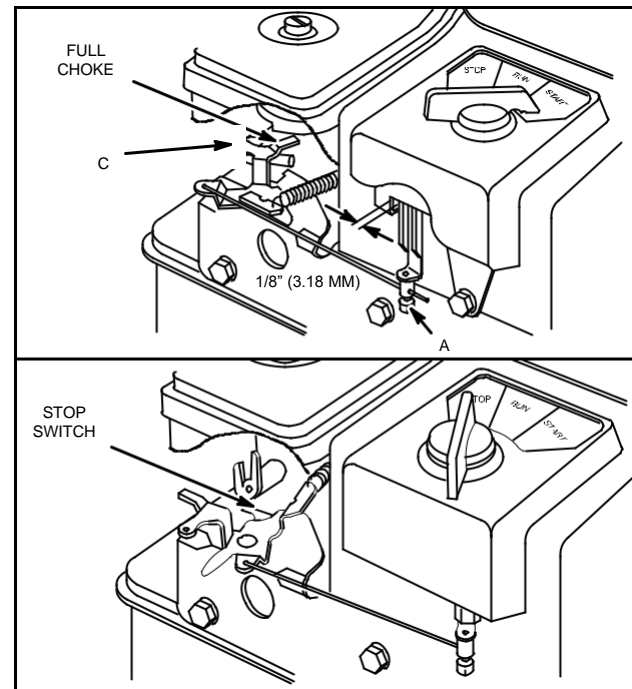

Fig. 357 - CHOKE-A-MATIC DIAL CONTROL ADJUSTMENTS
2. Loosen control wire screw "A" - move lever "C" to full choke position. Allow a 1/8" (3.18 mm) gap between lever and bracket as shown, Fig. 357.